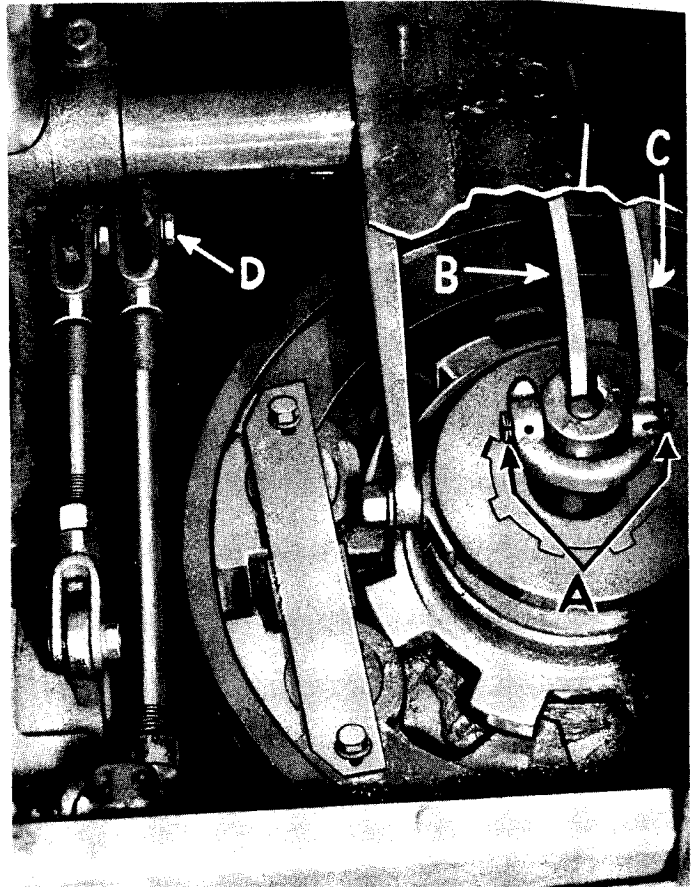

FIG. 5
6. Remove the hinged cover at the front of the cab and take off center covers below the rope drums to expose the levers at the center of rotation. See figure 5. (It will be necessary to remove parts of the dirt trough on machines having dragline front end equipment.)
13. Support the Upper Works on four jacks, one at each corner and continue lowering it using **EXTREME CAUTION** to keep it level. As it moves down into position turn the propelling gear at the center of rotation so that the splines are correctly meshed with the vertical propel shaft. (See Fig. 5.) Also enter the lever "B" in the slot in the center reach rod as soon as possible.
6. Raise the hinged cover at the front of the cab and remove the covers under the drums to expose the reach rods at the center of rotation. (See Fig. 5, Section VII).